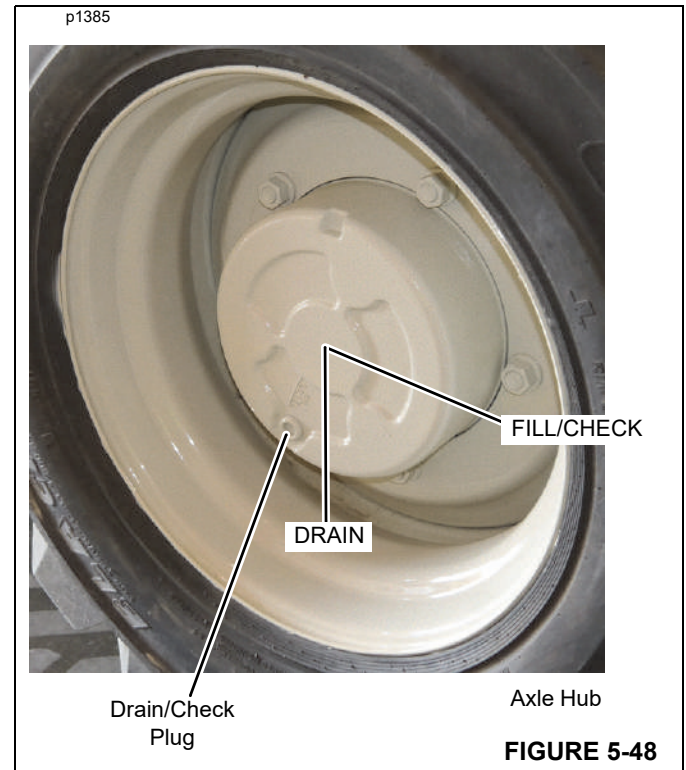

FIGURE 5-48
See Figure 5-48.
3. Turn one of the axle wheel hubs (Figure 5-48) until the drain plug is located at the bottom of the wheel hub.
6. Turn the wheel hub until the drain/check hole is horizontal (Figure 5-48).